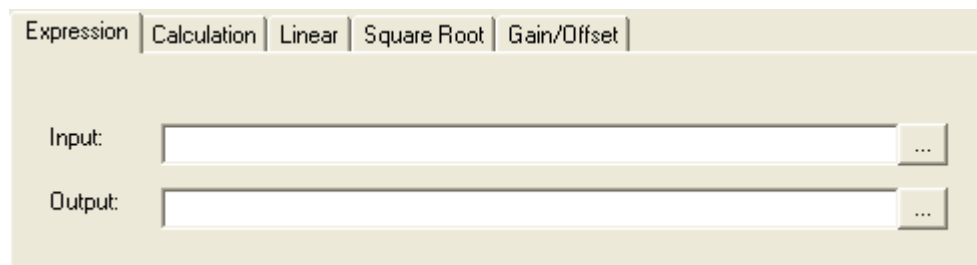

Figure 46 - Expression Tab
6. Select the **Expression** tab (Figure 46).